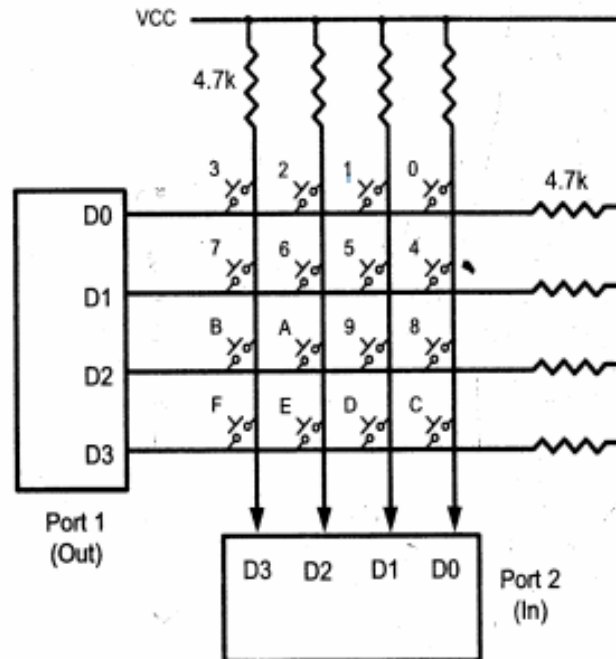

Figure 5.3 Matrix Keyboard Connection to Ports
- Figure 5.3 shows a 4 x4 matrix connected to two ports.